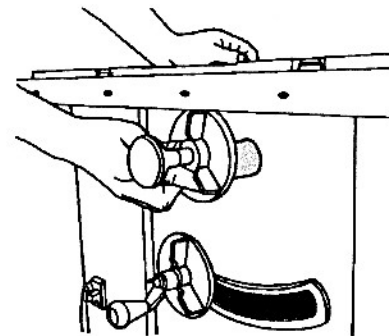

Fig. B-15
15. If not already loose, loosen the carriage lock, as seen in Fig. B-15, and make sure the carriage is all the way back to the outfeed side of the table. Tighten the carriage lock.